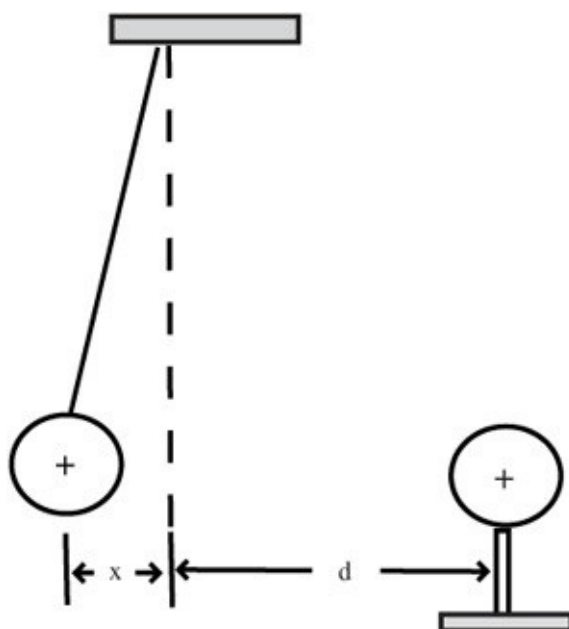

Figure 96-2 *Two charged balls show displacement from equilibrium position.*
13. The separation between the stationary ball and the equilibrium positions is designated as d , as shown in Figure 96-2. The total distance between the two pith balls is given by $d + x$. Make a graph of the separation from equilibrium, x , and the distance, $d + x$, between the balls.